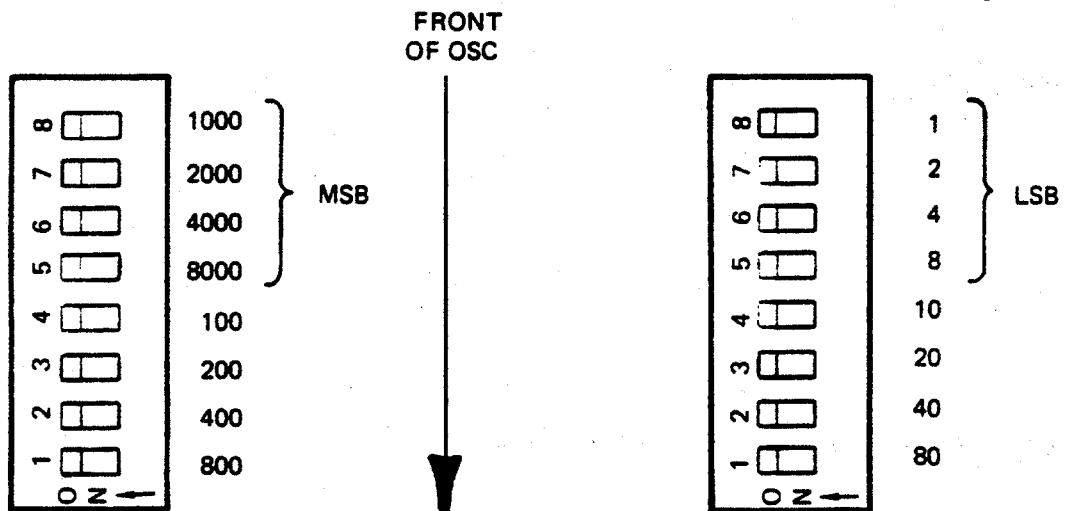

Figure 1-1
1.3.2 The 400SP oscillator plugs into the front panel of the Elgar Power Source and is secured by two captive screws. Frequency output is controlled by two 8 position DIP switches which are internal to the oscillator. These are inverted logic, thus the off position of the switch enables the bit. The code for these switches is shown in Figure 1-1. The Range is set by a jumper which is also shown in Figure 1-1. The X1 to Com sets the 45 to 99.99 Hz range, the X10 to Com sets the 45 to 999.9 Hz range and the X100 to Com sets the 45 Hz to 5 kHz range.